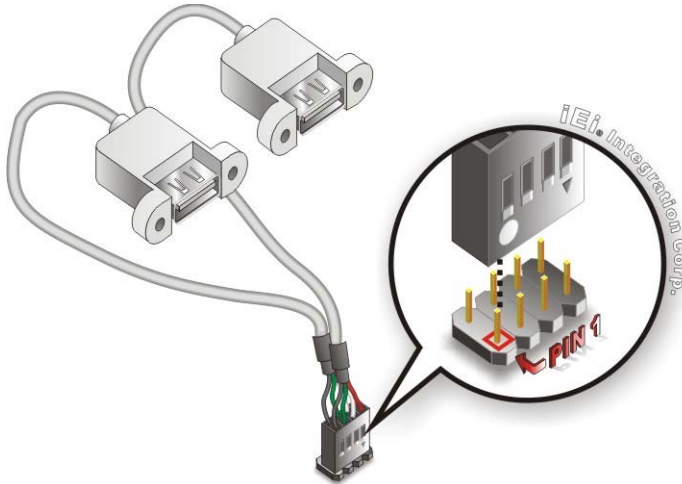

Figure 4-17: Dual USB Cable Connection
Step 3: Insert the cable connectors. Once the cable connectors are properly aligned with the USB connectors on the NANO-HM651, connect the cable connectors to the on-board connectors. See Figure 4-17.